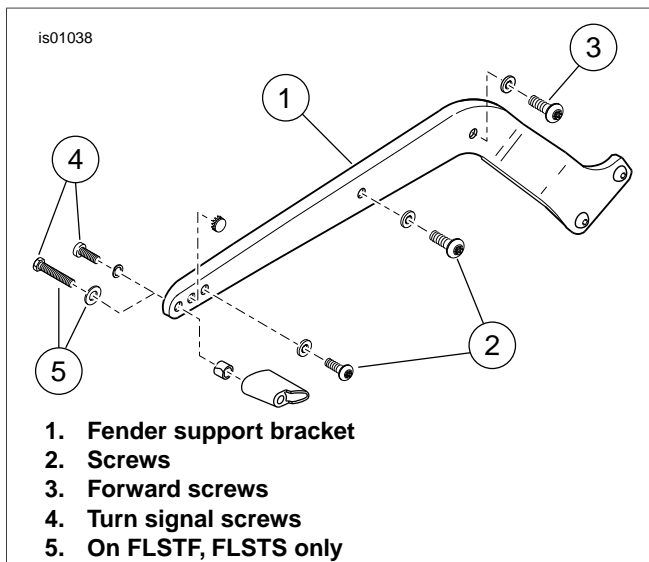

Figure 4. Hardware Removal
13. See Figure 4. Remove the four mid- and rear screws (2) from the fender-support brackets on both sides of the motorcycle.
14. Loosen, but do not remove, the two forward screws (3) from the fender-support brackets on both sides of the motorcycle.
15. Gently lift the rear of the fender enough to remove the screws (4) fastening the turn signals to the fender supports. Save the turn-signal housings for installation.
16. Lower the fender back into place. Loosely fasten the screws (2) to the fender support.
23. See Figure 4. Torque the fender-support screws (2) and (3) to 21-27 ft-lbs (28-37 Nm).